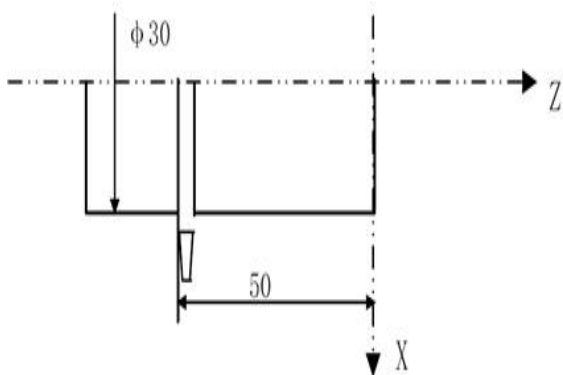

Fig3.9.14 Example of G75
**Execution process:(Fig3.9.14)**
① Radial (X axis) cutting feed  $\Delta i$  from the starting point of radial cutting cycle, feed in X negative direction when the coordinates of cutting end point is less than that of starting point in X direction,otherwise, feed in X positive direction;
② Radial(X axis) rapid tool retraction e and its direction is opposite to the feed direction of ①;
③ Cutting feed( $\Delta k+e$ ) again in X direction, the end point of cutting feed is still in it between starting point An of radial cutting cycle and end point of radial tool infeed, cutting feed ( $\Delta i+e$ )again in X direction and execute ②; after cutting feed ( $\Delta i+e$ )again in X direction, the end point of cutting feed is on Bn or is not on it between An and Bn cutting feed to Bn in X direction and then execute ④ ;
④ Axial(Z axis) rapid tool retraction  $\Delta d$  (radius value) to Cn , when the coordinates of Bf (cutting end point) is less than that of A (starting point) in Z direction, retract tool in Z positive, otherwise, retract tool in Z negative direction;
⑤ Radial(Z axis) rapid retract tool to Dn, No. n radial cutting cycle is completed. The current radial cutting cycle is not the last one, execute ⑥ ; if it is the previous one before the last radial cutting cycle, execute ⑦;
⑥ Axial(X axis)rapid tool infeed, and it direction is opposite to ④ retract tool. If the end point of tool infeed is still on it between A and Af (starting point of last radial cutting cycle) after tool infeed ( $\Delta d+\Delta k$ ) (radius value) in Z direction, i.e.  $D_n \rightarrow A_{n+1}$  and then execute ① (start the next radial cutting cycle); if the end point of tool infeed is not on it between Dn and Af after tool infeed ( $\Delta d+\Delta k$ ) in Z direction, rapidly traverse to Af and execute ① to start the first radial cutting cycle;
⑦ Rapidly traverse to return to A in Z direction, and G75 is completed.